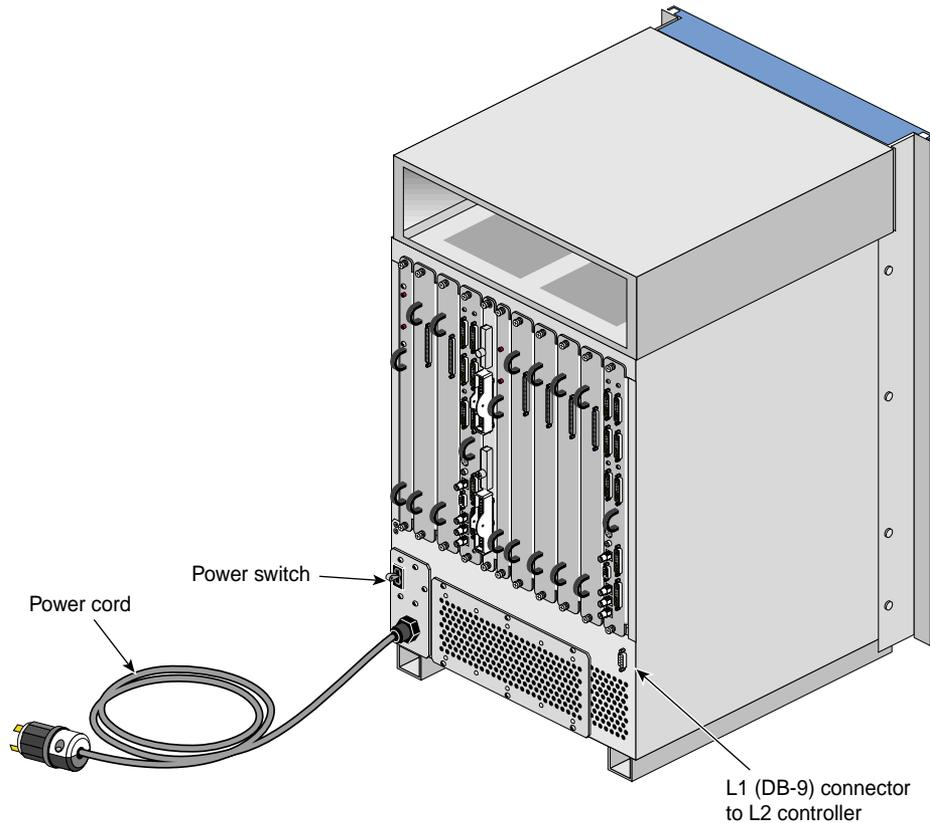

Figure 2-11 InfiniteReality Graphics Module Power Switch
3. Set the power switch of the InfiniteReality graphics module (if applicable) to the ON position. Figure 2-11 shows the location of the power switch.
3. Set the power switch(es) of any InfiniteReality graphics module(s) to the ON position as shown in Figure 2-11.